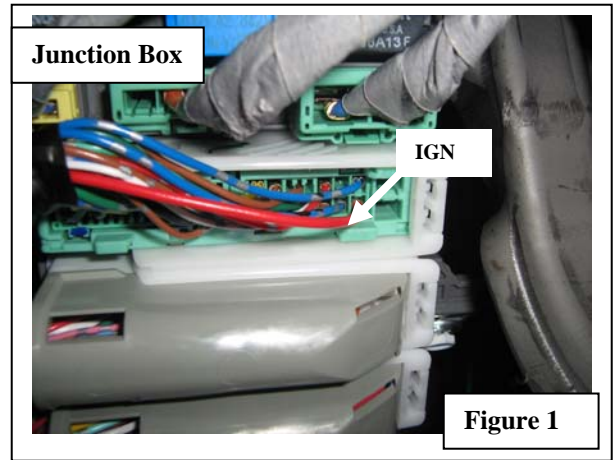

Figure 1
-  1. Use the **lever wedges** on the **Control Switch** at an angle template to drill a 3/8" or 9.5mm hole in the lower shroud of the steering column cover. Position lock-washers as shown. **Figure 1**